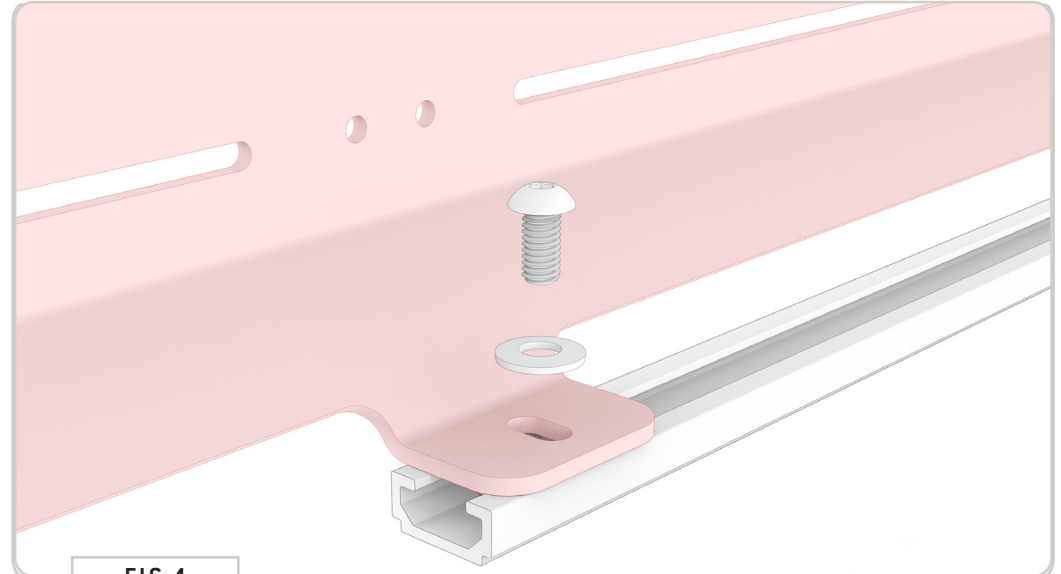

FIG 4
**2.1 Install Side Rails:** Beginning with the forward section of the rack (see FIG 5 for layout), start loosely attaching the side rails to the roof rails using the **3/8-16" Button Head Screws & 3/8" Lock Washers**, but do not tighten them all the way down (FIG 4).